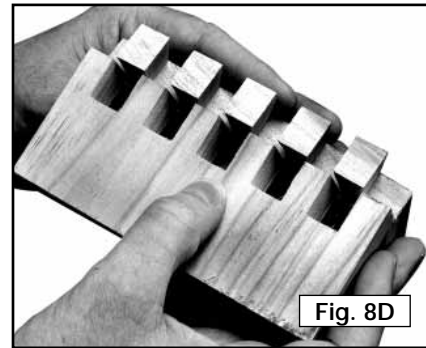

Fig. 8D
**Step 6** - Remove the pin board and check the fit with the tail board (Fig. 8D).